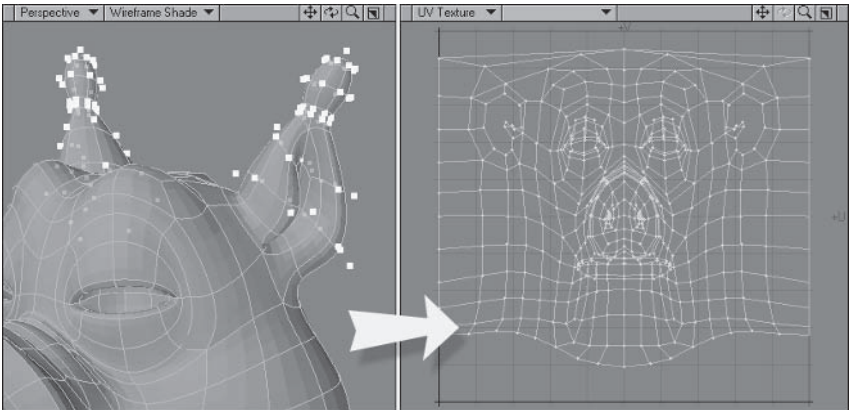

Figure 6.2-7. Remove the ears from the map, as they can't be mapped well within this layout.
9. Select the points of the bulb of the ears, expanding the selection until you have the points selected as shown in Figure 6.2-7, and **Clear Map**.